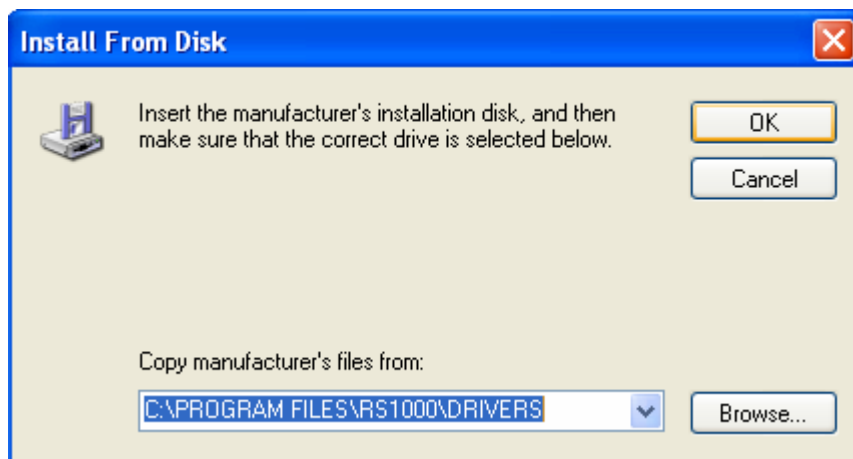

Fig. 07
Step 7: Browse to the “C:\Program Files\RS1000\Drivers” directory and click on “OK”. Proceed by clicking on “Next”. (Fig. 07)